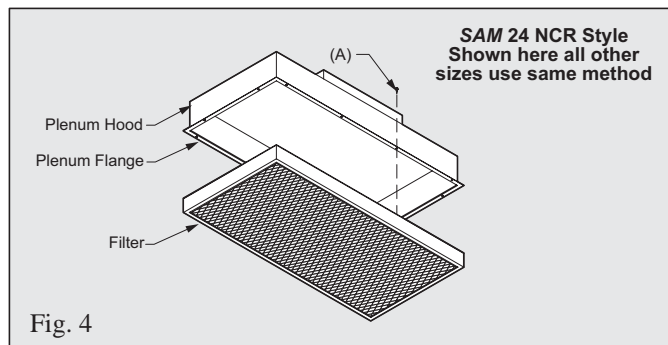

Fig. 4
2. (Fig. 4) Using a power driver and 1/4" socket bit or, phillips head screwdriver, remove twelve Self-Piercing Screws(A) located on plenum flange.